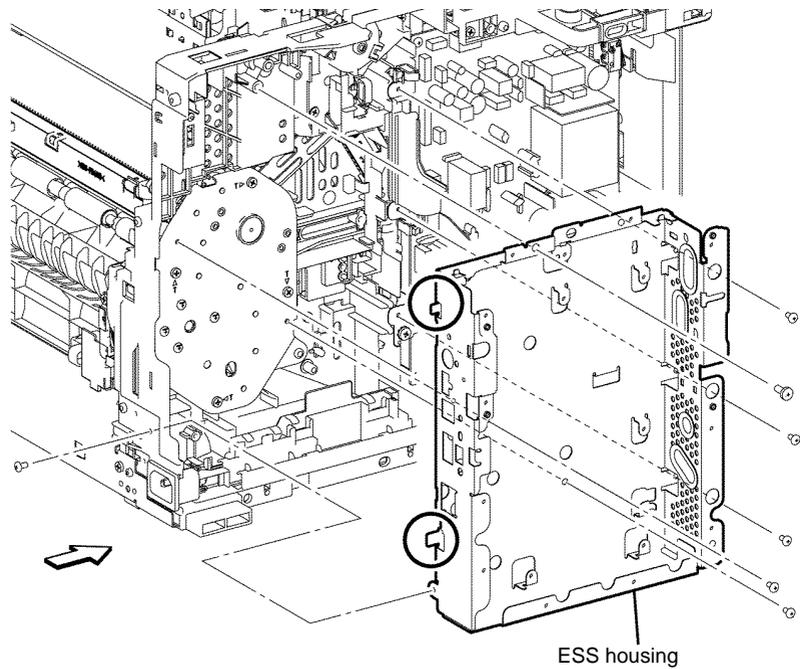

Figure 1 ESS housing removal
- Remove six screws (silver, M3, 6mm) and one screw (silver, tapping, M4, 10mm), that fix the ESS housing. Release the two tabs from the frame, then remove the ESS housing from the printer, Figure 1.